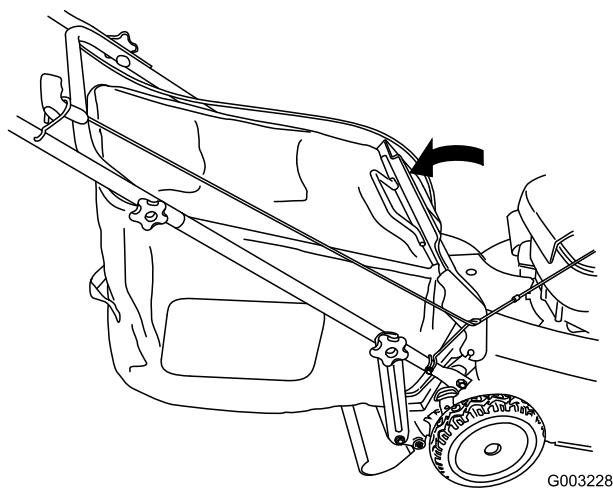

Figure 26
5. Lower the rear door (Figure 26).